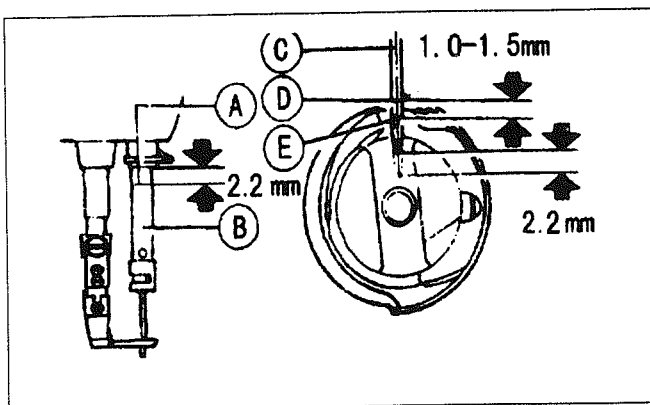

Fig. 20
Timing of needle motion to rotating hook motion has a great effect on sewing performance. The standard hook point timing (See Fig.20) is to align Hook Point (D) and Needle Centerline (C) when Needle Bar (B) is lifted by 2.2mm from the lower end of its stroke. Besides, Hook Point (D) should be 1.0-1.5mm above the upper end of needle eye (E).